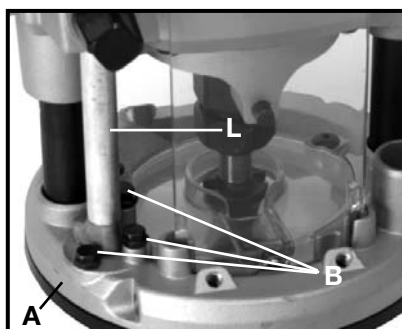

Fig. 12
Normally the deepest cut is set with the depth rod (L) Fig. 12 resting on the base casting (A) Fig. 12. Adjust the three adjustable stops (B) Fig. 12 to any desired height to allow stock removal in steps. This action will prevent overloading motor and/or the various depths that may be required for a particular job.